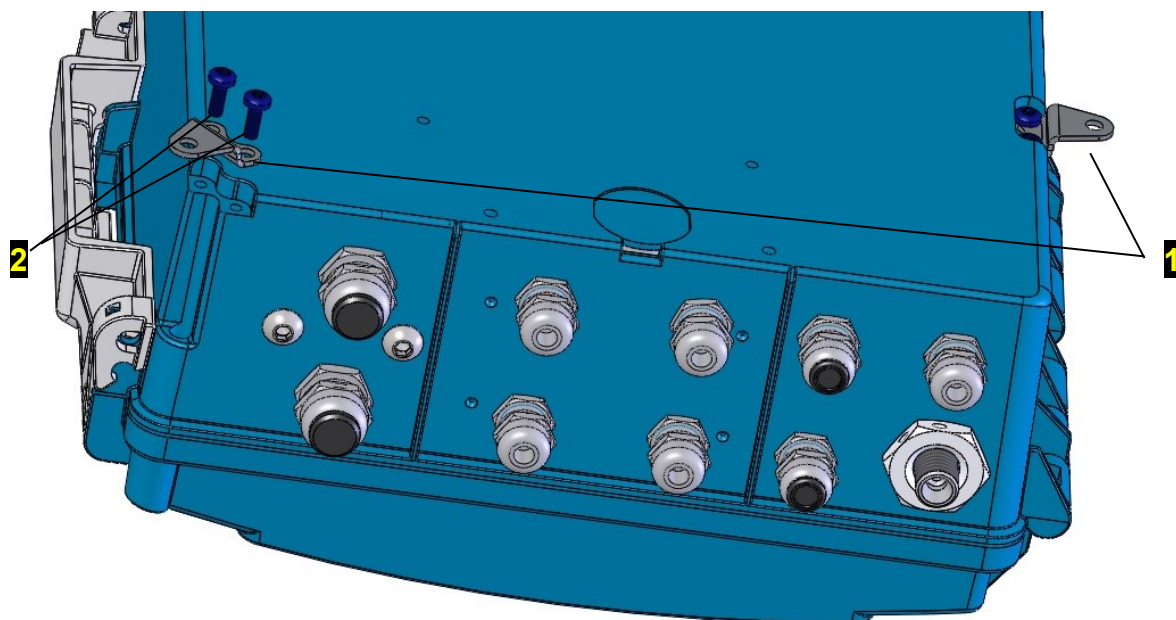
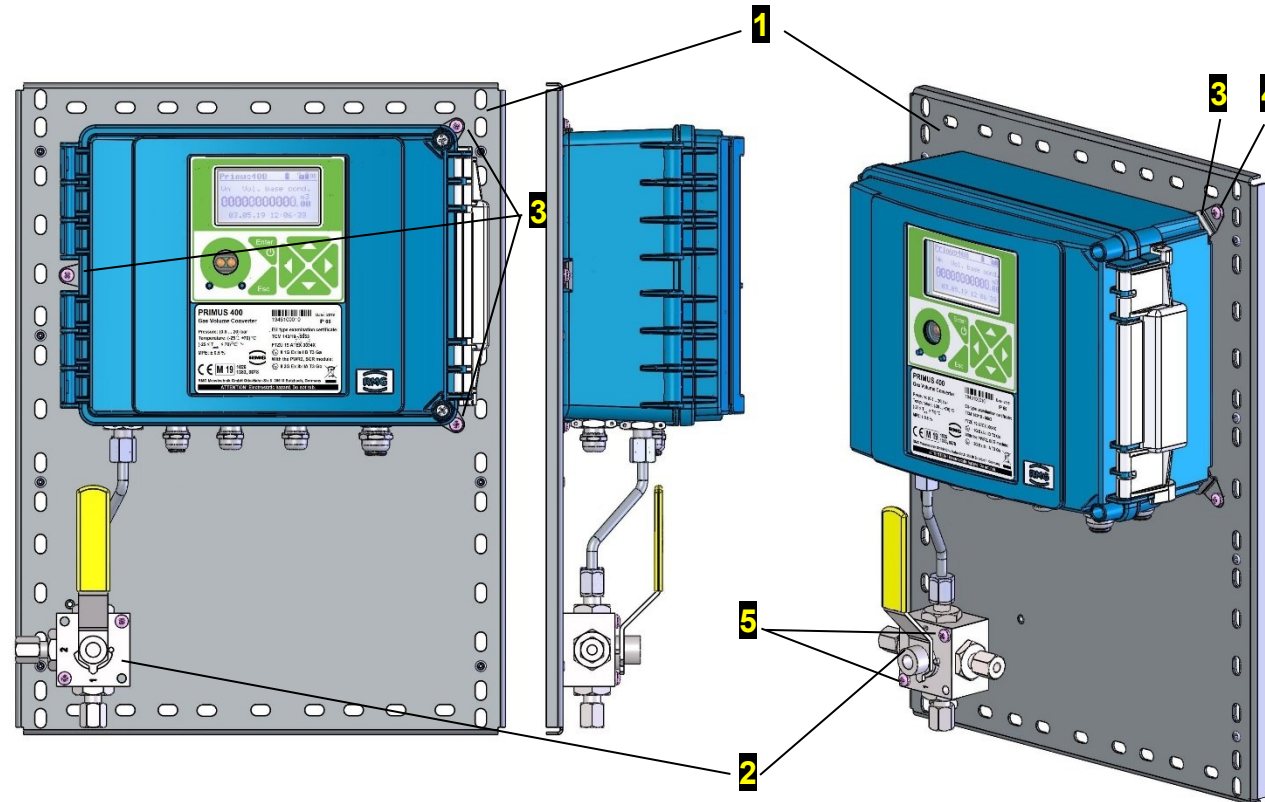

Fig. 4: Mounting the brackets on the device
Fig. 5: Mounting Primus 400 on a mounting plate
1. Before attaching the device to the mounting plate, first fit 3 pcs of brackets 1 using 3.5x12 self-tapping screws for plastic 2 supplied with the device onto the bottom side of the device (see Fig. 4).
2. Attach the device fitted with brackets 3 to the mounting plate using 3 screws M4x10 ISO 7045 4 (Fig. 4, Fig. 5). The M4 rivet nuts are pre-fitted on the mounting plate.